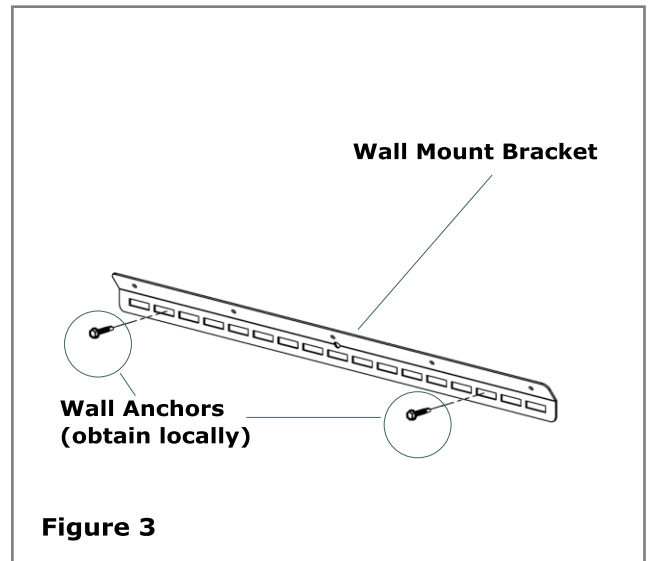

Figure 3
2. Determine mounting location. The wall mount bracket includes slotted mounting holes to ensure a level and stable attachment. **(See Figure 3)**